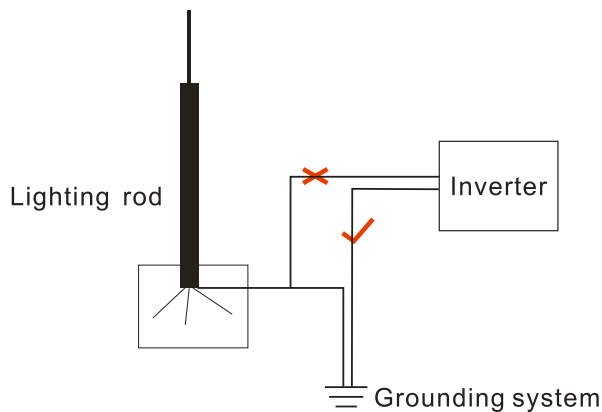

Figure 3-28 The grounding of inverter
- The grounding of the inverter and the lightning rod of the inverter installation building cannot be the same, the two need to be separated (as shown in Figure 3-28).